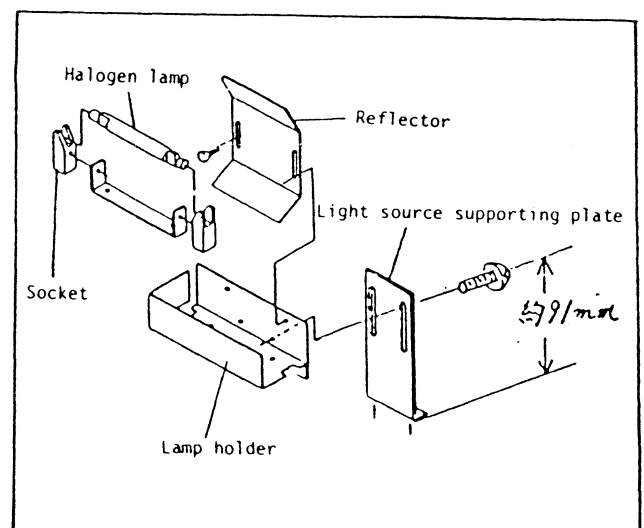

Fig. 14
3. To secure the distribution of the intensity of illumination, the lamp is installed as shown in Fig. 14 before it is shipped from the factory.